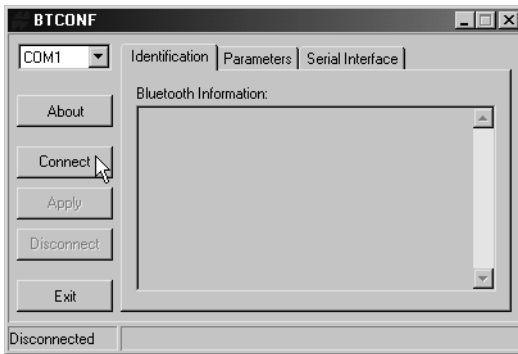

Figure 2-41. Select Communication Port and Click Connect
- From the drop-down list in the upper left corner, select the computer serial port (usually COM1) used for communication (Figure 2-41).
- Click **Connect** to connect the computer and Bluetooth module (Figure 2-41).